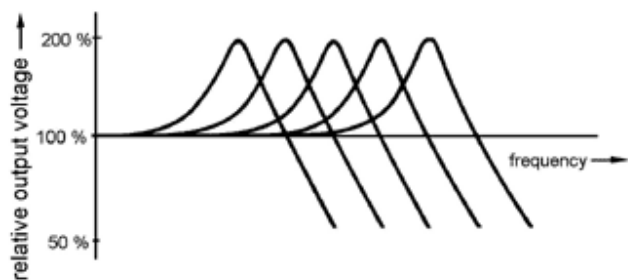

Fig. 5. Changing the frequency response with different external capacitors parallel to a pickup coil
3. Change the external load. This method is inexpensive but can be very effective. With only a little expense for electronic components, the sound can be shaped within wide limits. Standard tone controls lower the resonant frequency by connecting a capacitor in parallel with the pickup (usually through a variable resistor to give some control over how much the capacitor affects the pickup). Therefore, one way to change the sound is to replace the standard tone control potentiometer with a rotary switch that connects different capacitors across the pickup (a recommended range is 470 pF to 10 nF). This will give you much more sound variation than a standard tone control (Fig. 5).